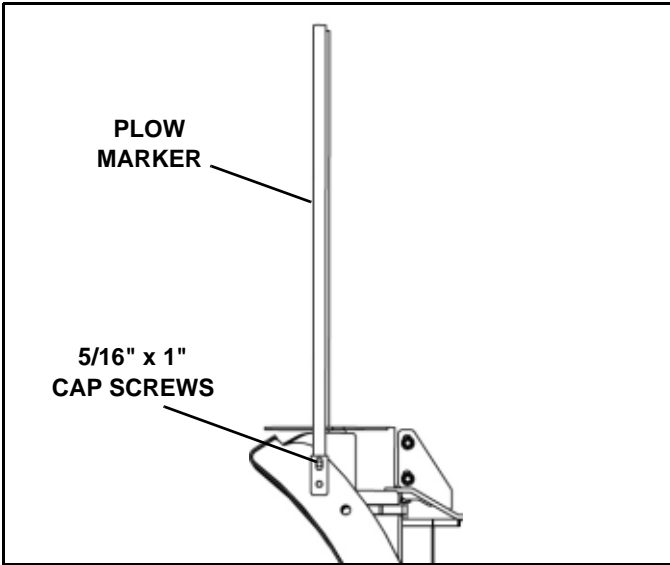

Figure 1-10
13. Attach a plow marker to each wing as shown and secure using 5/16" x 1" cap screws and locknuts. (See Figure 1-10).